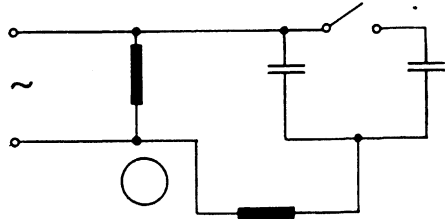

Fig. 3
- By a combination of the connections according to fig. 3 the capacitor for continuous operation (the dimensioned operational capacitor) and the capacitor for short time operation (the dimensioned start capacitor) are connected parallel. The capacitances for these two capacitors are combined and will give a large starting torque. When the motor is speeded up the start capacitor is disconnected for example by a centrifugal switch. The operational capacitor which is still connected will preserve the rotating field of the stator, give a good degree at function, high power factor and high power in a motor of small dimensions.